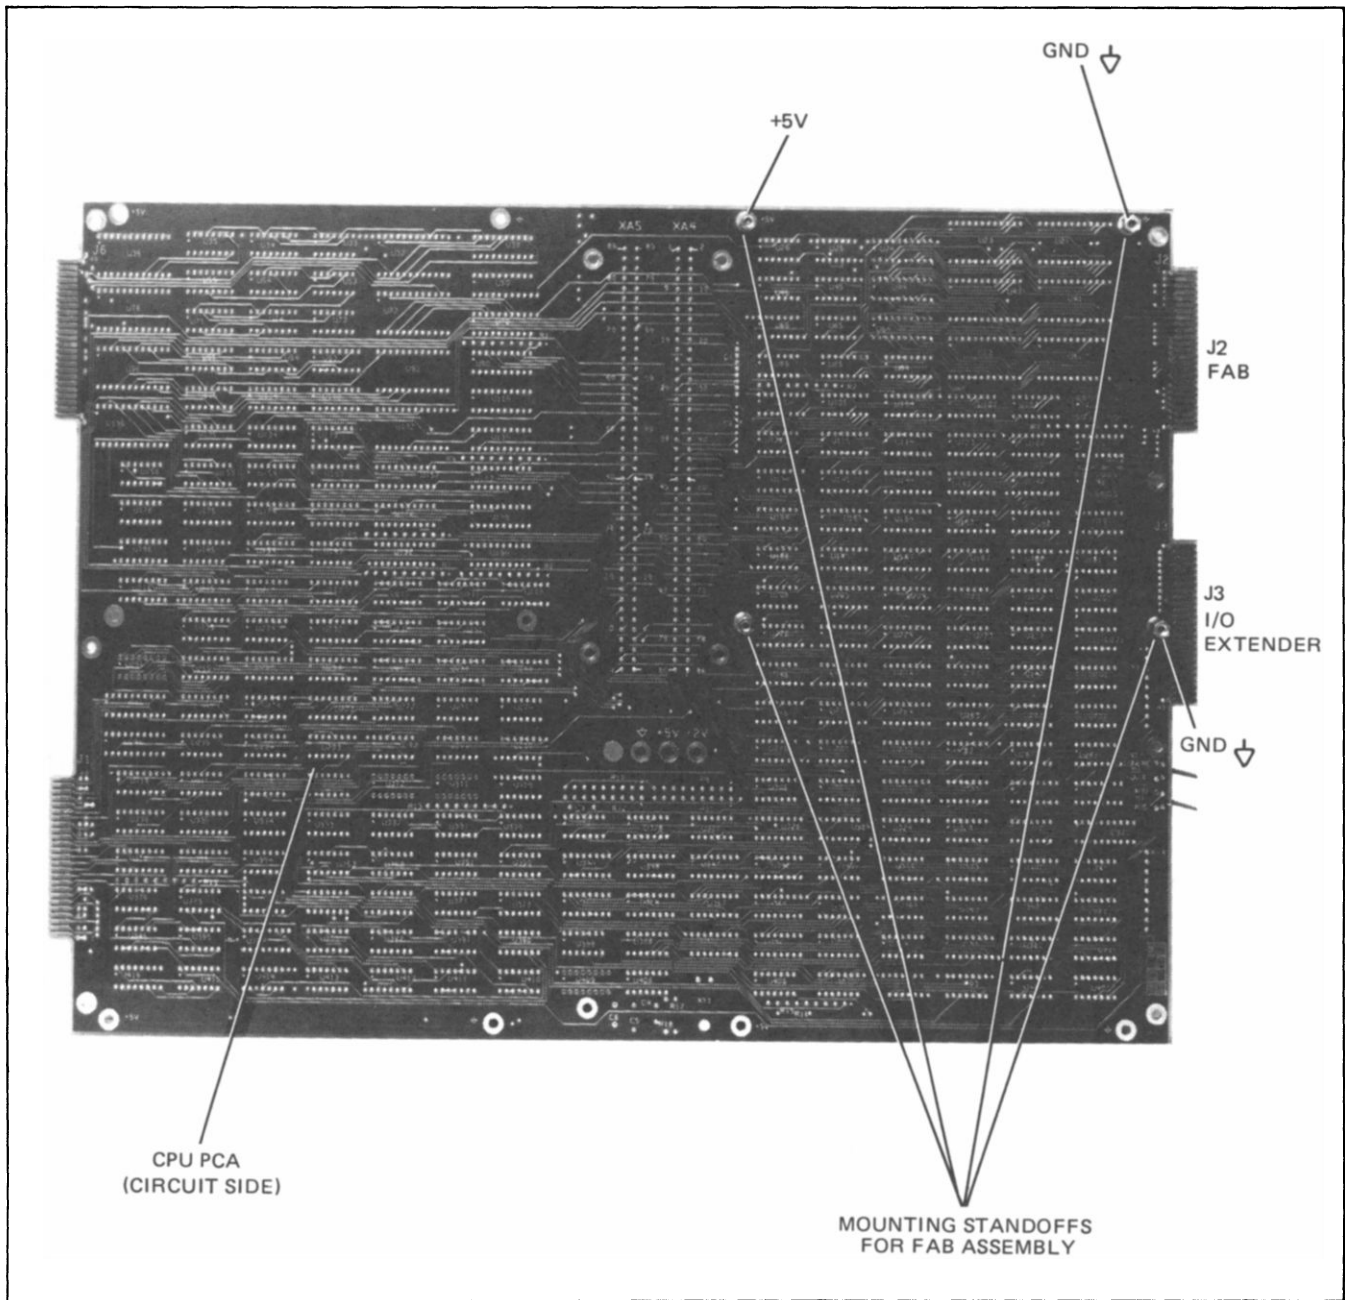

Figure 1-3. Firmware Accessory Board Mounting Details
- e. Remove the four screws and lockwashers (see figure 1-3) which fasten the FAB to the CPU standoffs.
- g. Position FAB assembly over the CPU PCA standoffs and fasten it securely with the four screws and lockwashers. (See figure 1-3.) Note that the FAB assembly obtains its dc power from the CPU PCA standoffs.